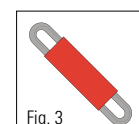
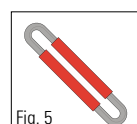

Fig. 3
Fig. 5
**i** Protective sleeves can also be fitted by the user as shown in Fig. 1, Fig. 3 and Fig. 5. Special designs available on request.